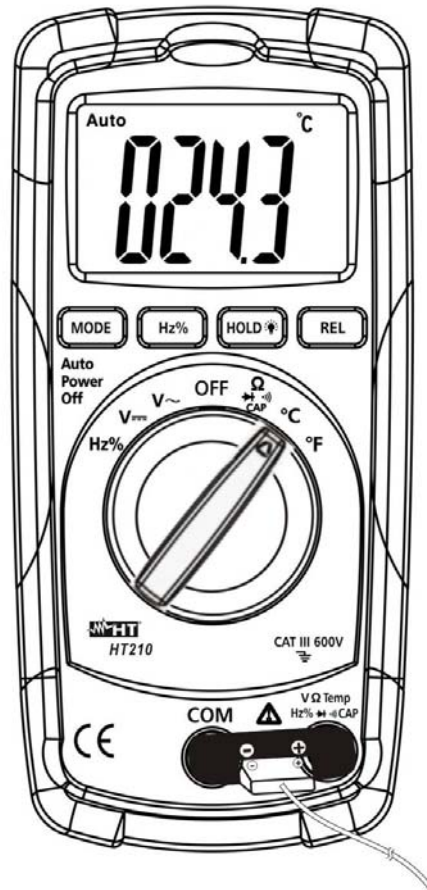

Fig. 8: Using the instrument for temperature measurement
2. Insert the standard adapter accessory into VΩTempHz%CAP▶(•••)) jack (+ polarity), and COM jack (- polarity) (see Fig. 8)